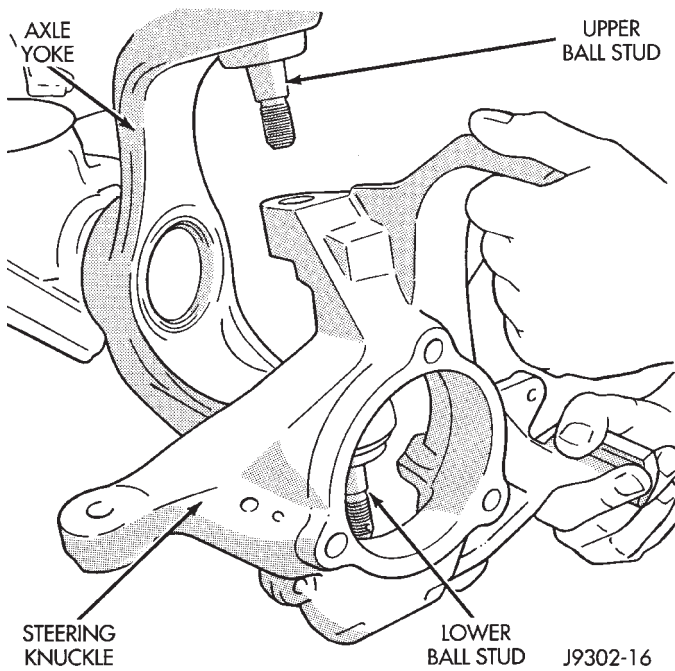

Fig. 19 Steering Knuckle Removal/Installation
- (1) Remove hub bearing and axle shaft refer to the Removal procedure.
- (2) Disconnect the tie-rod or drag link end from the steering knuckle arm. Remove the ABS sensor wire and bracket from knuckle.
- (3) Remove the cotter pins from the upper and lower ball studs. Remove the upper and lower ball stud nuts.
- (4) Strike the steering knuckle with a brass hammer to loosen. Remove knuckle from axle tube yokes (Fig. 19).